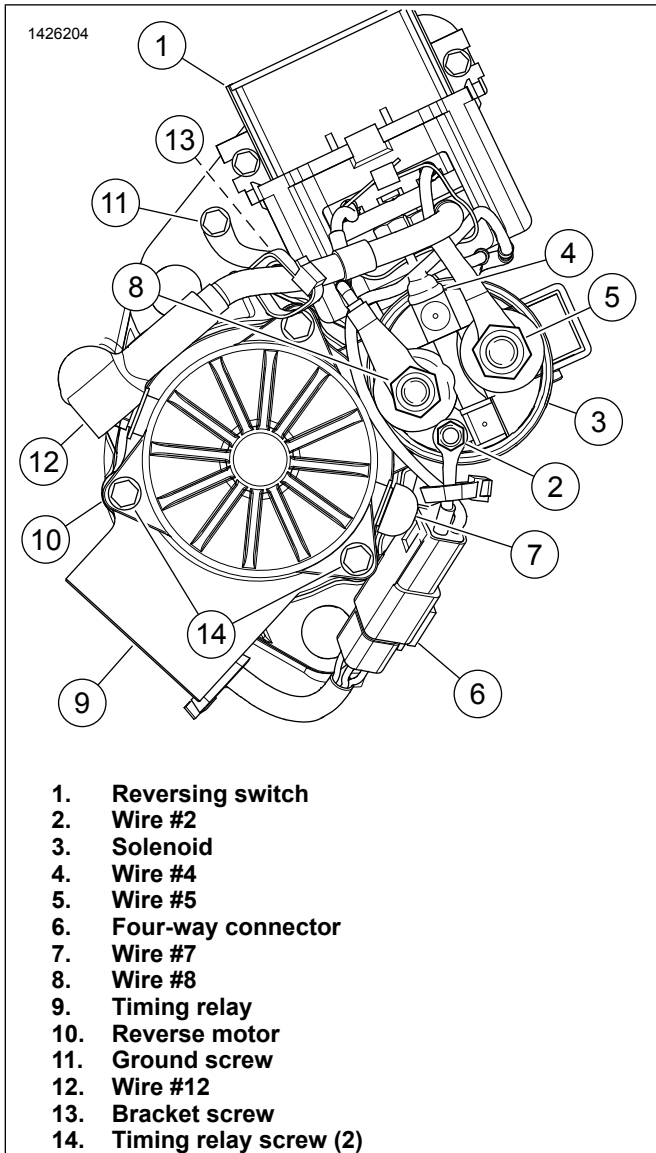

Figure 50. Reverse Motor Electrical Kit Connections
1. See Figure 50. Install bracket screw (13). Tighten.